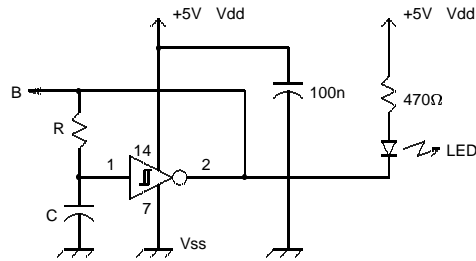

Figure 13: LED Oscillator
2. Remove the cathode connection of the LED from ground and connect it to the output of the schmitt trigger oscillator, pin 2 of the IC, as shown in figure 13.